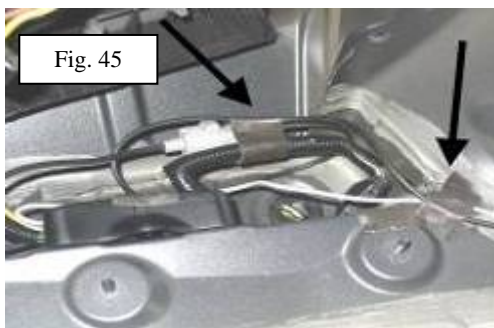

Fig. 45
27. Using a 2 foam pads, secure excess wire bundle and connectors to prevent rubbing and vibration noises (Fig 45).